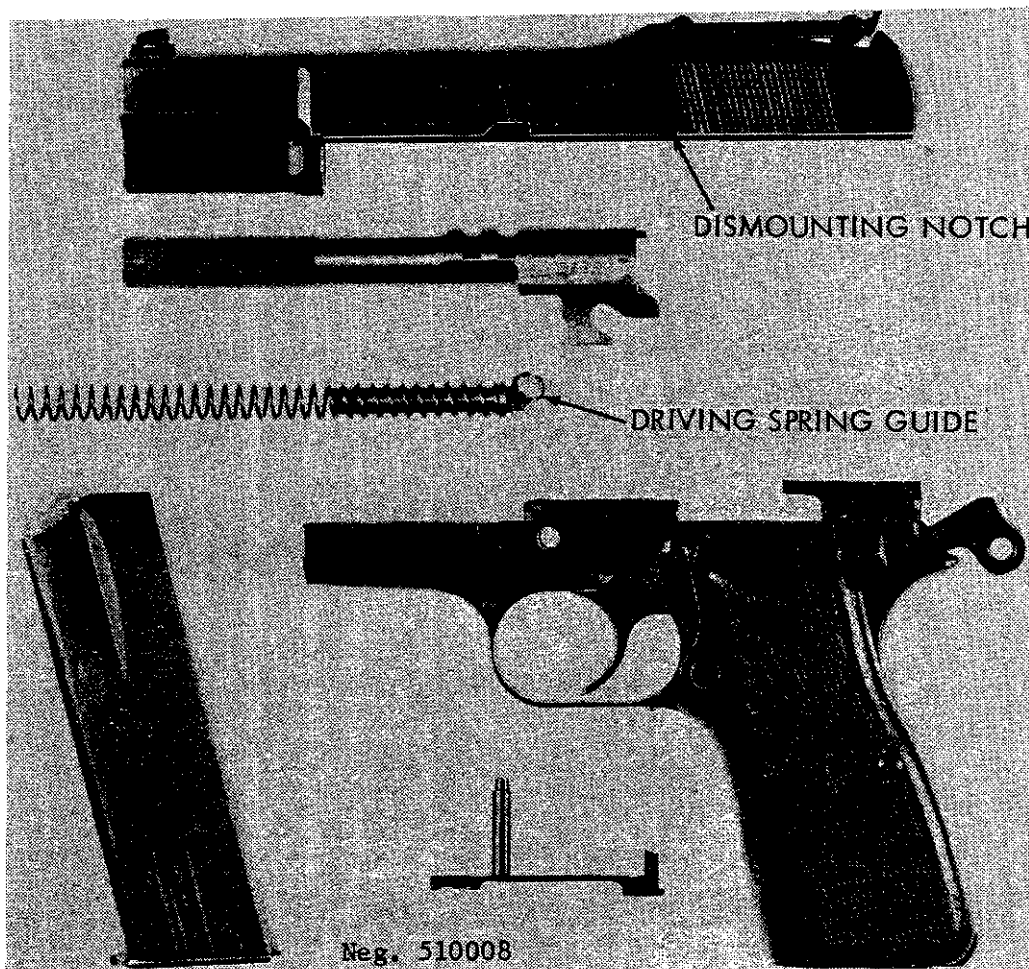

Figure 9. High Power pistol, disassembled.
(1) Clear the weapon (para 9g), but do not insert the magazine.
(2) Retract the slide until the safety can be pressed up into the dismounting notch (fig 9). Press the rear of the slide stop up, and then press in on the right end of the slide stop pin to start the slide stop out of the receiver. Pull the slide stop fully out.
(3) Hold the slide, and press the safety down. Ease the slide forward, and pull it from the receiver.
(4) Grasp the driving spring guide (fig 9) and pull it forward (out of its seat in the barrel); then ease the guide and spring up and out of the slide.
(5) Pull the rear end of the barrel out of the slide; then pull the barrel rearward until it is free.
(1) Insert the muzzle end of the barrel into the slide; press the rear end of the barrel into the slide and move the barrel rearward until its locking ribs snap into place in the slide. Insert the free end of the driving spring into its tunnel in the front of the slide; then mate the driving spring guide to the barrel. Note: The hole in the guide must be positioned so that it is toward the barrel; refer to figure 9 for correct positioning.